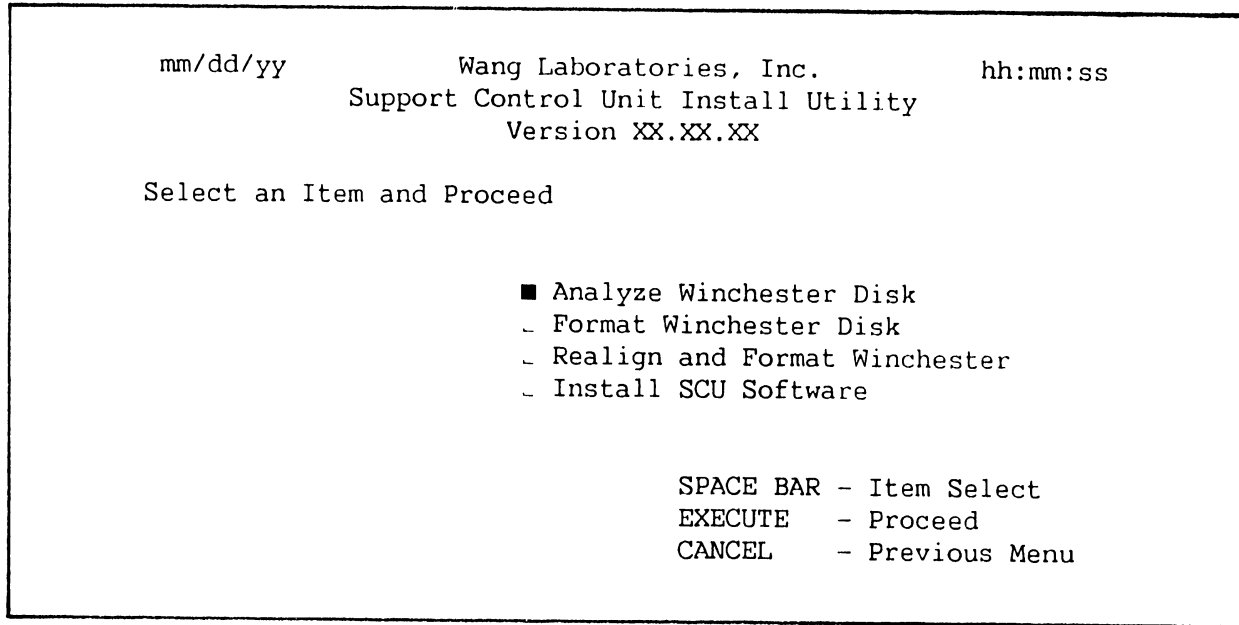

Figure 9-18. SCU Install Utility Menu Screen
7. The SCU Install Utility menu appears. (See figure 9-18.)
- f. Figure 9-18, the SCU Install Utility menu, reappears.